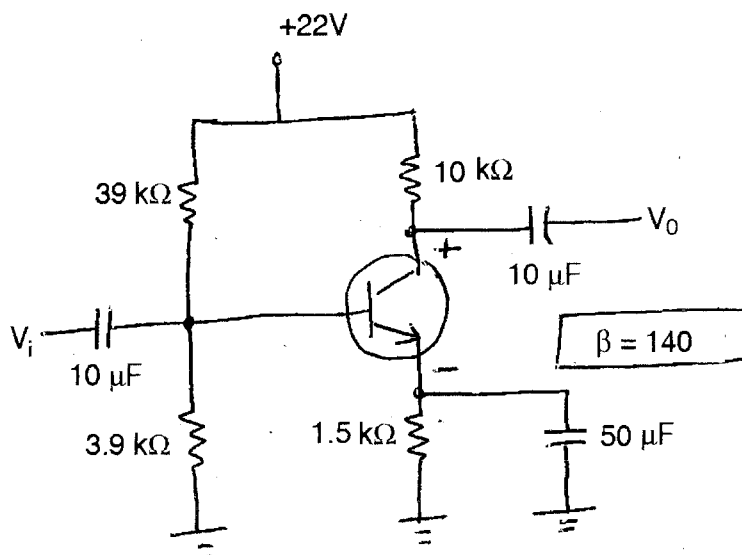

Fig. 5
- b) Determine the dc bias voltage  $V_{CE}$  and the current  $I_C$  for the configuration shown in Fig. 5. 8